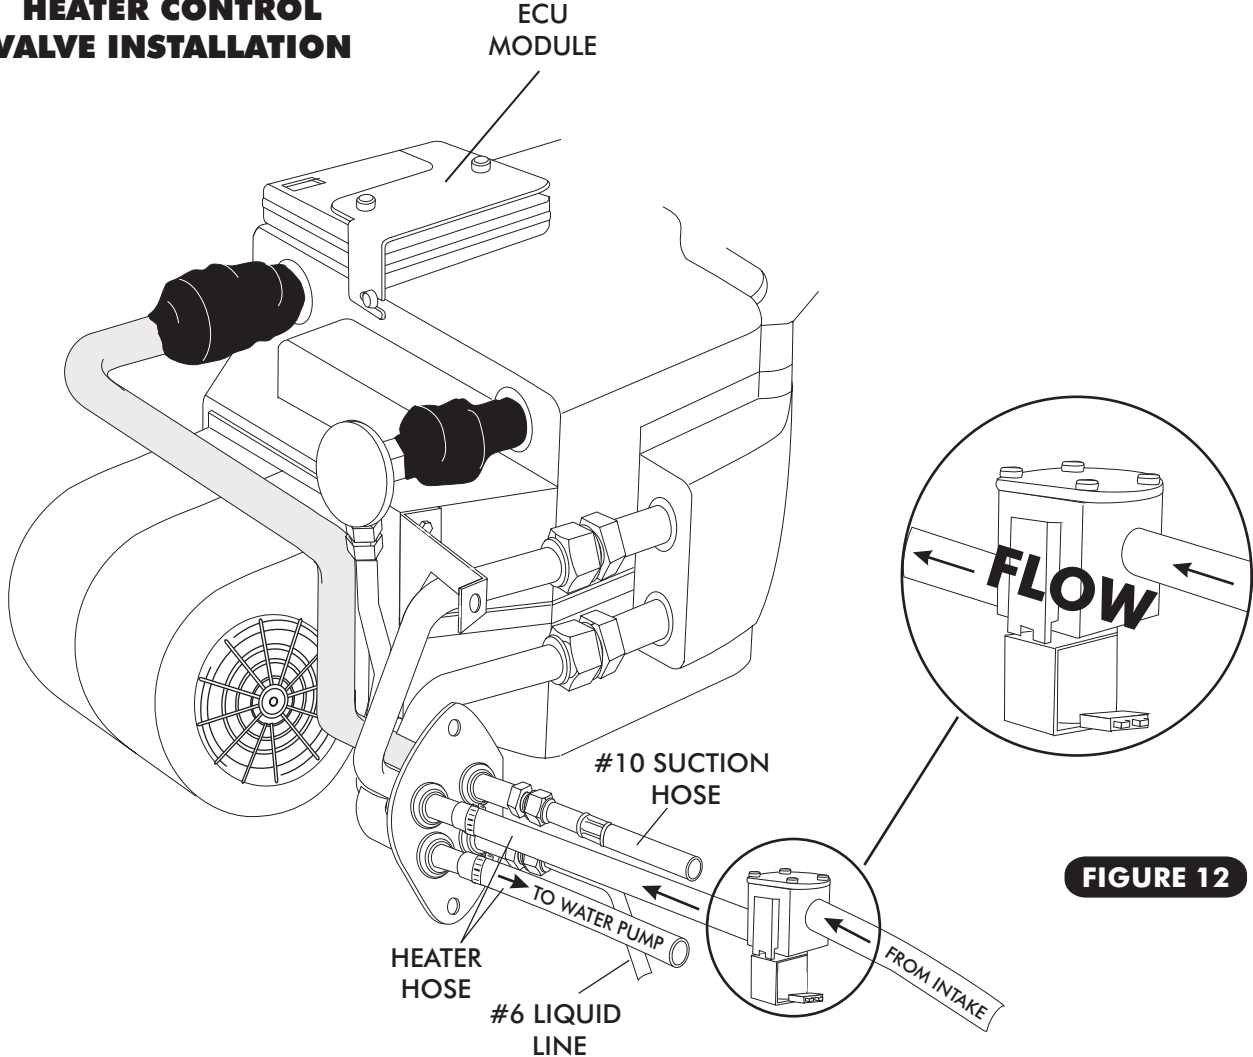

FIGURE 12
- INSTALL HEATER CONTROL VALVE IN-LINE WITH INTAKE MANIFOLD (PRESSURE SIDE) HEATER HOSE. SEE FIGURE 12, PAGE 12.